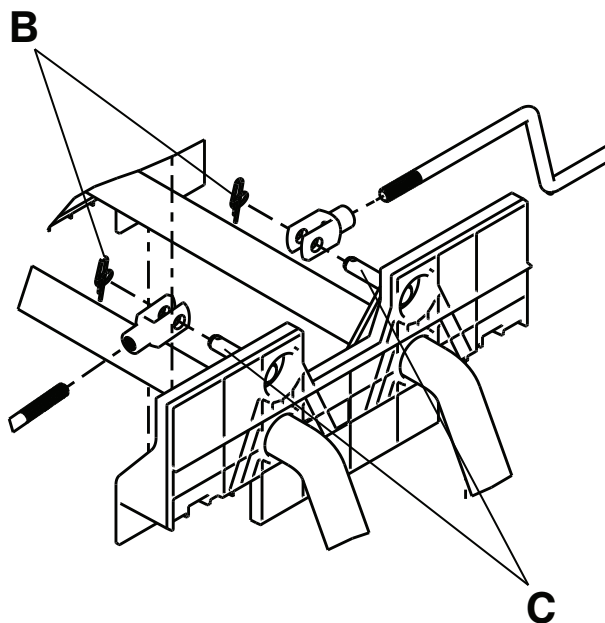

Figure 13 – Remove rue ring cotters from studs
5. Remove the rue ring cotters (B) from the studs (C) on the side control release pedal weldment (Figure 13).